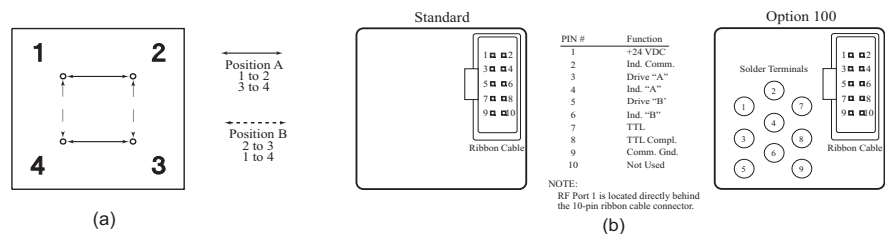

Figure 3 (a) RF Port Connections and (b) Drive Connections
There are two positions for the L7222C coaxial transfer switch. See Figure 3. Position A has RF Port 1 connected to RF Port 2 and RF Port 3 connected to RF Port 4. Position B has RF Port 2 connected to RF Port 3 and RF Port 1 connected to RF Port 4. Either switch can be driven with a standard grounding drive control with or without a separate ground. Single line or Dual line TTL control are also available. The switch operates in a break-before-make mode.
- Connect pin 1 to supply voltage (+20 Vdc to +32 Vdc) and pin 9 to ground. See Figure 3 for connection diagram and Table 2 for standard drive control.
- Connect pin 1 to supply voltage (+20 Vdc to +32 Vdc) and pin 9 to ground. See Figure 3 for connection diagram and Table 3 for TTL drive control.